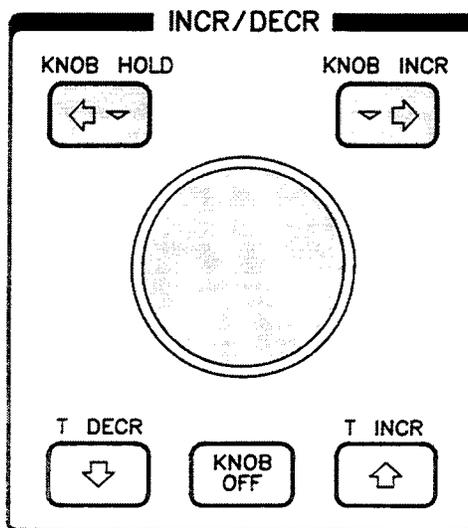

Figure 4-5. Knob for Start, Stop, Center, and Span.
- Turn the knob (shaded in figure 4-5) clockwise to increase frequency, or turn the knob counterclockwise to decrease the displayed frequency: